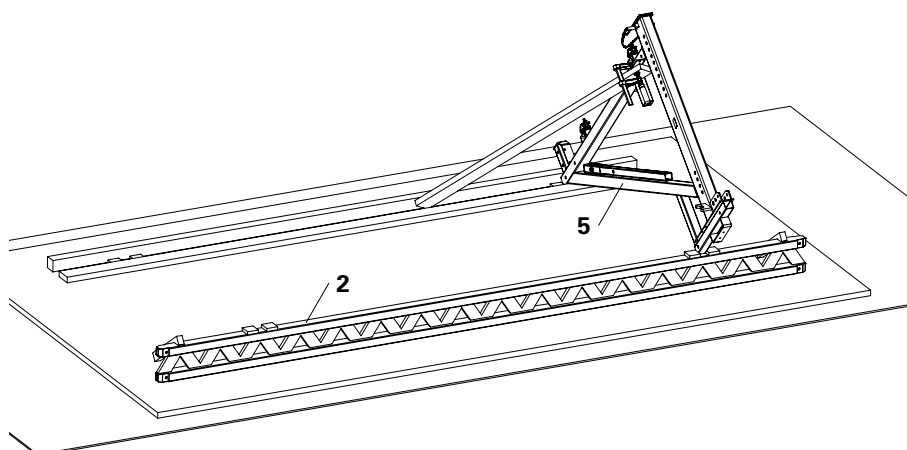

Fig. A1.03
- Diagonal bracing for securing bracket 1 plank 40 x 120 mm, L = 2.0 m (5) (Fig. A1.03)